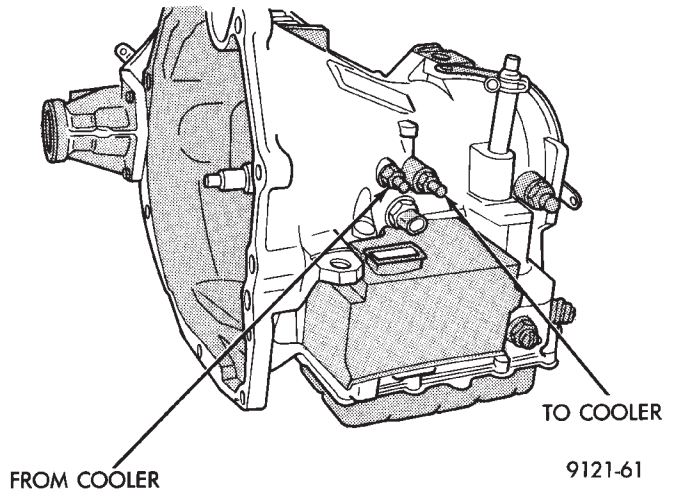

Fig. 1 Cooler Line Location
(1) Disconnect the cooler lines at the transmission.
(2) Using a hand suction gun filled with mineral spirits, reverse flush the cooler by forcing mineral spirits into the **From Cooler** line of the cooler (Fig. 1). Catch the exiting spirits from the **To Cooler** line. Observe for the presence of debris in the exiting fluid. Continue until fluid exiting is clear and free from debris.